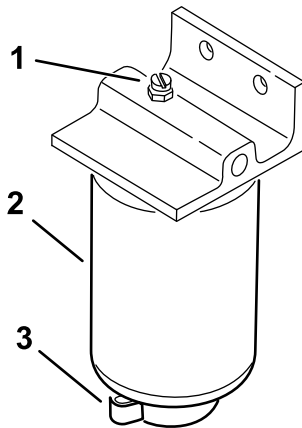

**Figure 37**
1. Close the fuel shutoff valve (Figure 37) below the fuel tank.